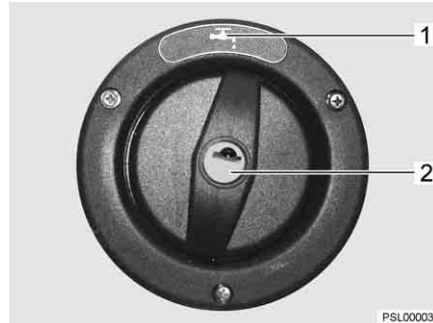

Fig. 225 Cap for the drinking water filler neck
The drinking water filler neck is indicated by the symbol "🔑" (Fig. 225,1). The cap is open and closed using the key for the external flap locks.
- Insert key into locking cylinder (Fig. 225,2) and turn a quarter turn in an anticlockwise direction.